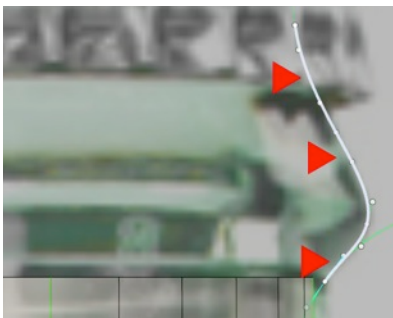

Fig. B10
29. Create a new sketch at the front plane and sketch a spline that follows the mouth's contour (Fig. B10).